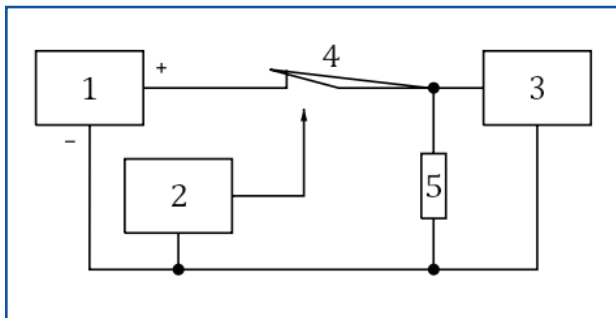

Figure 9 — Test set up for micro interruption with 12/24 V nominal voltage (UN)
- Test method: ■ To verify the switch reaction time, two reference measurements shall be performed and documented with the test setup given in Figure 9. In the first reference measurement, the DUT is replaced with a 1 kΩ resistor, and in the second measurement, the DUT is replaced with a 10 Ω resistor. The reference measurements enable the reaction time of the switch to be verified as acceptable before the full test is performed. The resistors used shall, therefore, have low inductance.
- Acceptable reaction time for the switch shall be $\leq 10 \mu\text{s}$. After the transition time performance of the switch has been verified, the DUT shall be tested with the full setup as shown in Figure 9.